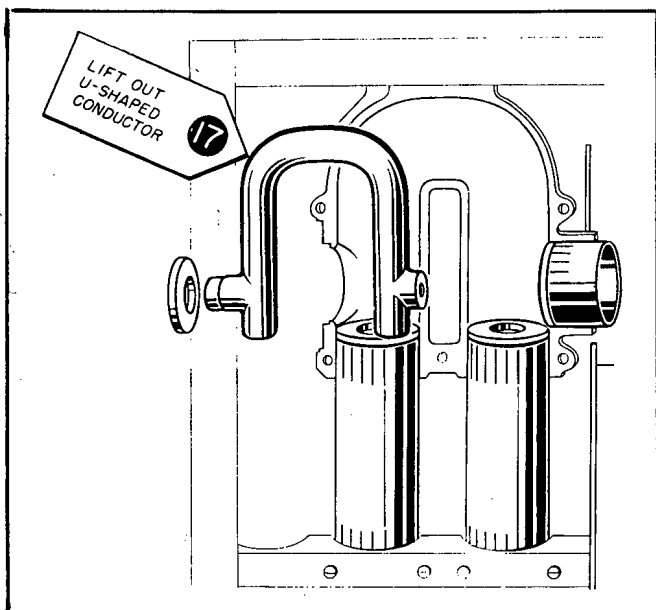

Figure 7-30. Removal of U-Shaped Conductor
(6) The final step in disassembly is the removal of the U-shaped conductor as shown in step 17 of Fig. 7-30. This part lifts out of its position as soon as the inner conductors of the duplexers are removed.
(7) To reassemble the r-f lines, reverse the above procedure. Place the insulators in position as shown after first brushing their edges with glyptol or some other suitable cement.